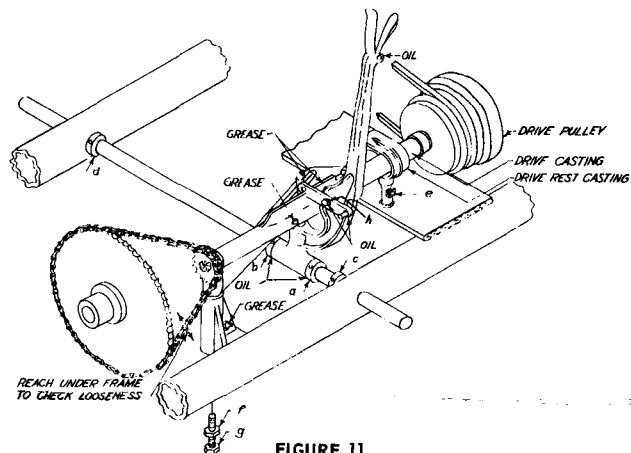

FIGURE 11
The drive chain also will wear in rather quickly at first and should be tightened when it becomes loose enough to permit more than one inch of movement as shown in Fig. 11 (tractor stopped of course).
To tighten chain: (Refer to Fig. 11)
- 1 drive casting - see Fig. 11
- 1 drive support casting - see Fig. 11
1. Drive casting as shown in Fig. 11
1. Points on shift lever pointed out in Fig. 11